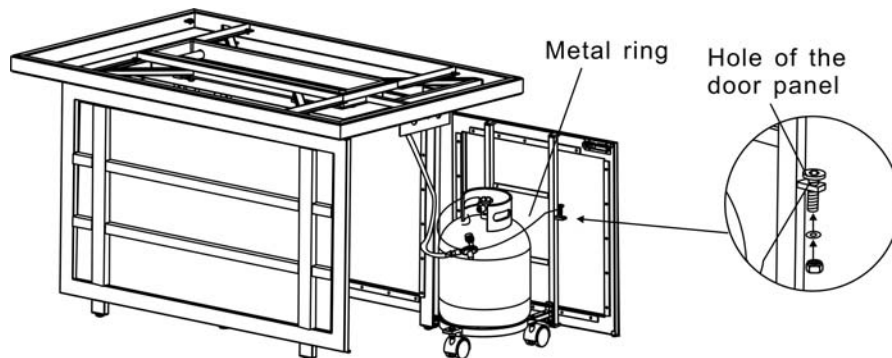
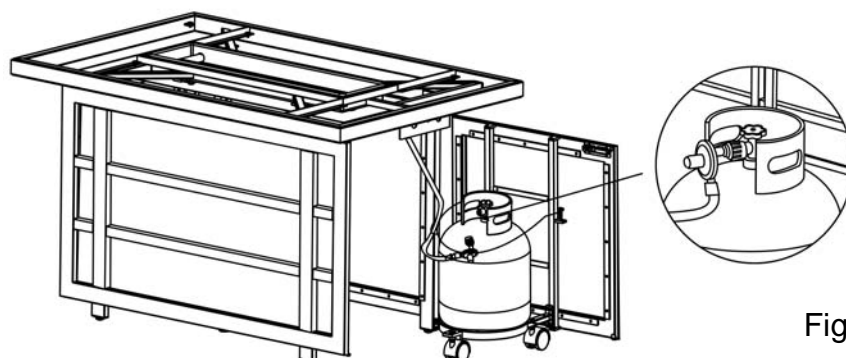

Figure 7a
Figure 7b
7. Attach the metal ring (as shown in Figure 7a) pre-fitted with regulator hose which is connected to the table rim, into the holes in the door panel, then use the hex bolt driver to tighten the 1/4"x5mm nuts. The propane tank is affixed as shown in Figure 7b. Connect the regulator as shown in Figure 7b. Turn the black handle clockwise to tighten. Turn the handle counterclockwise to remove. The hose must point down. Check that the valve is turned all the way clockwise to the "OFF" position.